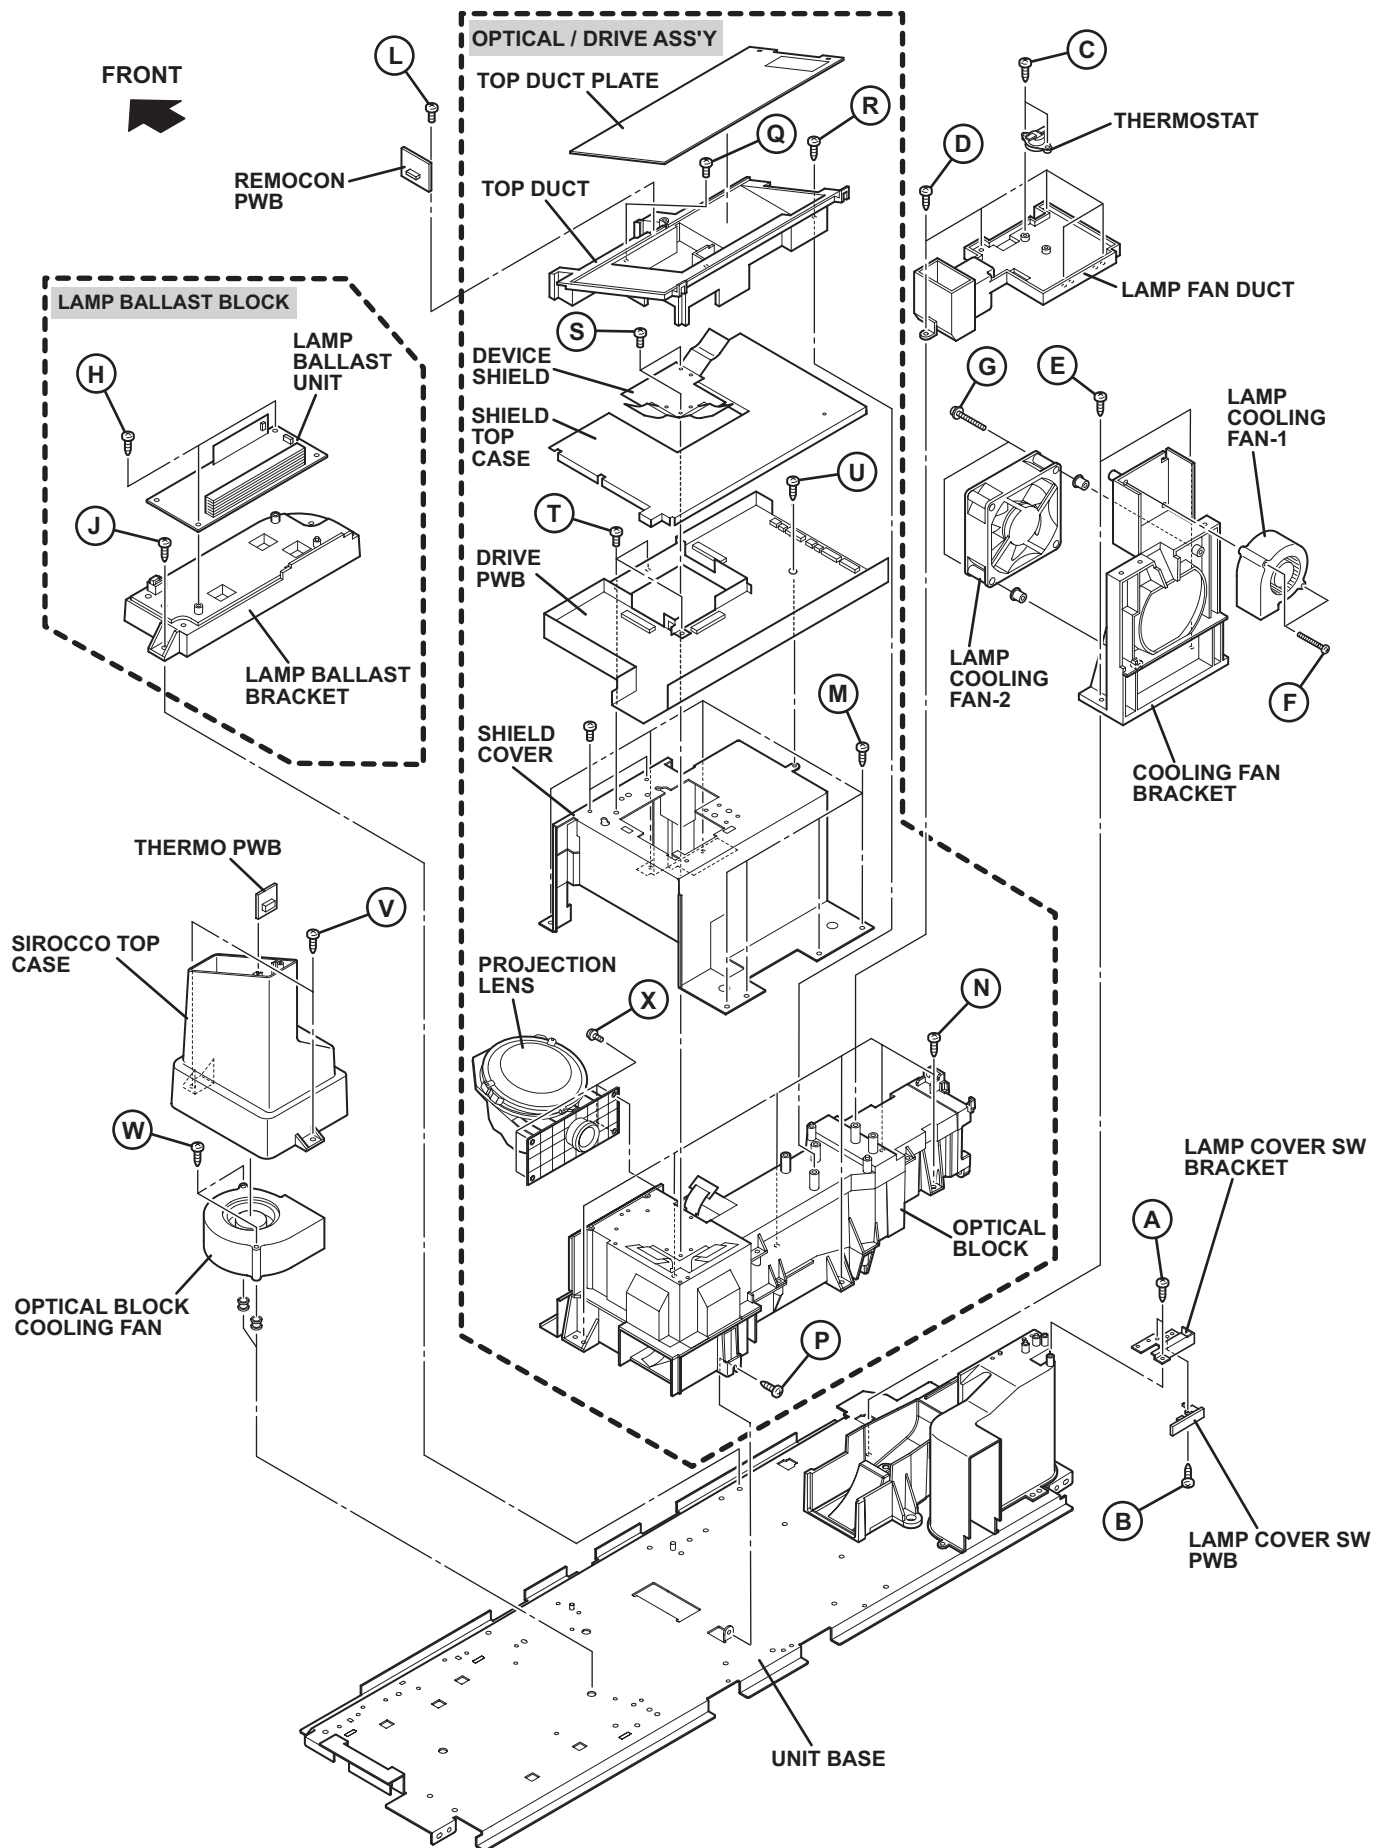

Fig.6
- (1) Remove the 2 screws **[C]**.
- (2) Remove the THERMOSTAT.
3.1.3.14 REMOVING THE LAMP FAN DUCT (Fig.6)
- (1) Remove the 5 screws **[D]**.
- (2) Remove the LAMP FAN DUCT.
3.1.3.15 REMOVING THE LAMP COOLING FAN -1 (Fig.6)
3.1.3.16 REMOVING THE LAMP COOLING FAN -2 (Fig.6)
- (1) Remove the 2 screws **[G]**.
- (2) Remove the LAMP COOLING FAN -2.
3.1.3.17 REMOVING THE LAMP BALLAST BLOCK (Fig.6)
3.1.3.18 REMOVING THE REMOCON PWB(Fig.6)
- (1) Remove the 1 screw **[L]**.
- (2) Remove the REMOCON PWB.
3.1.3.19 REMOVING THE OPTICAL / DRIVE ASS'Y (Fig.6)
3.1.3.20 REMOVING THE DRIVE PWB (Fig.6)
3.1.3.21 REMOVING THE OPTICAL BLOCK COOLING FAN (Fig.6)
3.1.3.22 REMOVING THE PROJECTION LENS (Fig.6)